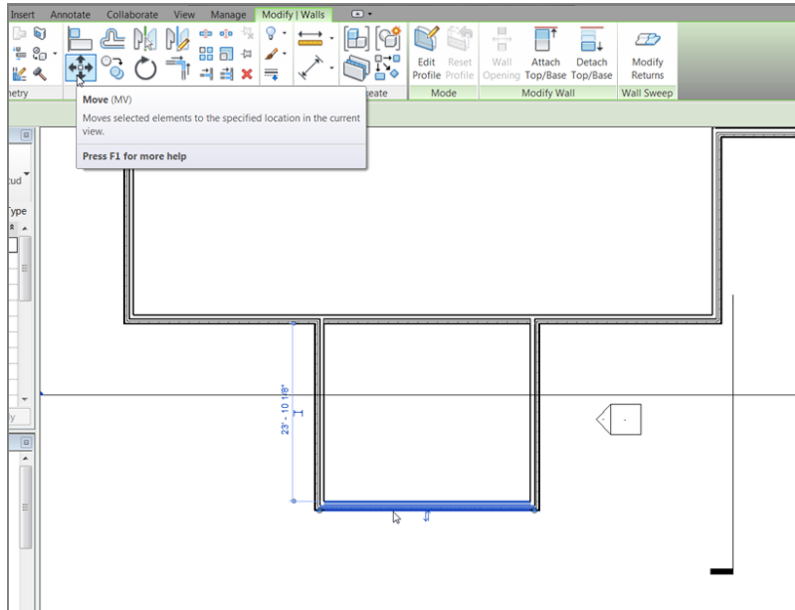

FIGURE 4.1: Select the wall to be moved. The Move button now appears on the Ribbon.
3. Select the south wall of the bump-out at the south side of the west wing, as shown in Figure 4.1.
4. On the Modify | Walls tab is the Move button (see Figure 4.1); click it.